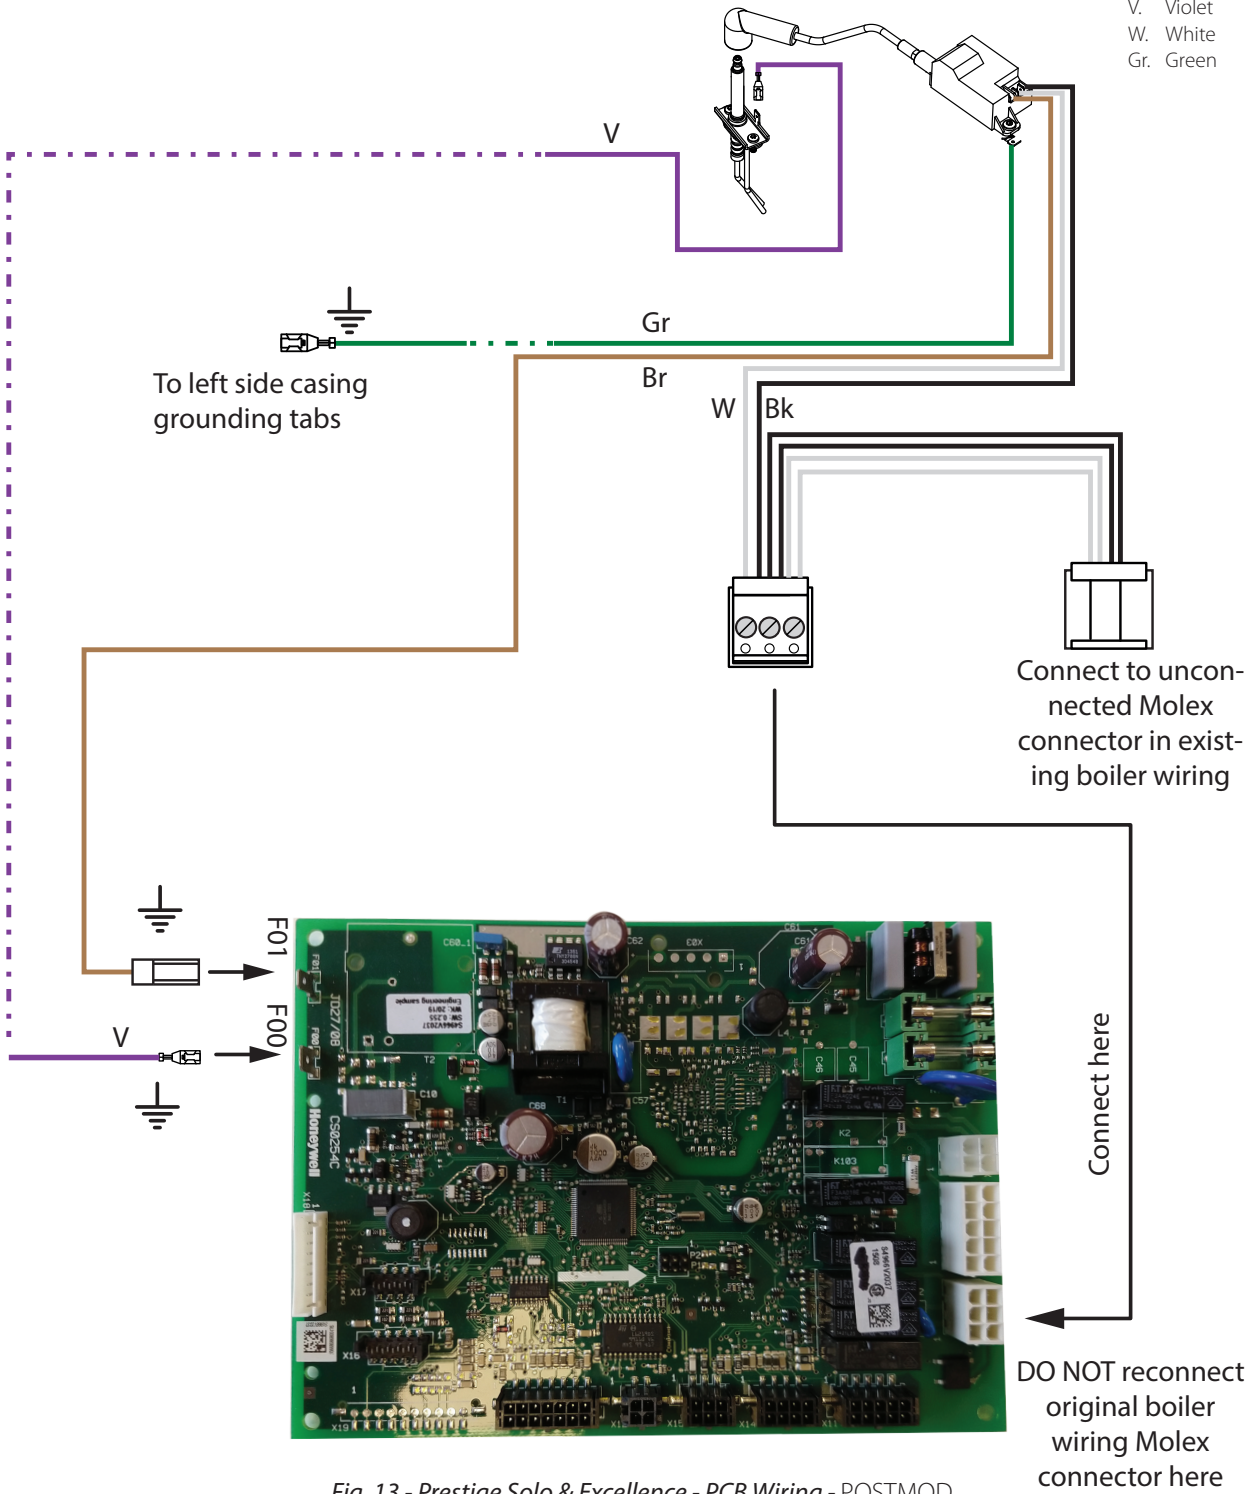

Fig. 13 - Prestige Solo & Excellence - PCB Wiring - POSTMOD
### 1.5.10 Wiring Connection (See Fig. 13)
3. Connect new brown cable to ignition transformer and to control module grounding tab F01. See Fig. 13.